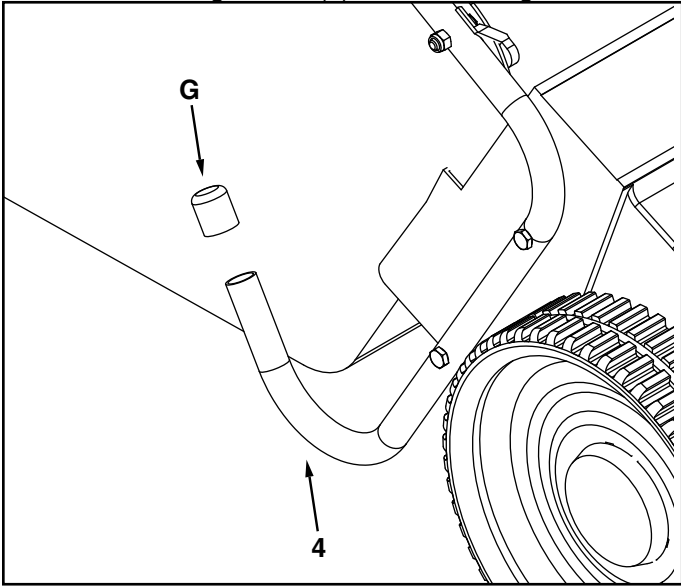

FIGURE 7
10. Assemble the two 3/4" x 7/8" plastic caps (G) onto the ends of the leg stands (4) as shown in figure 7.